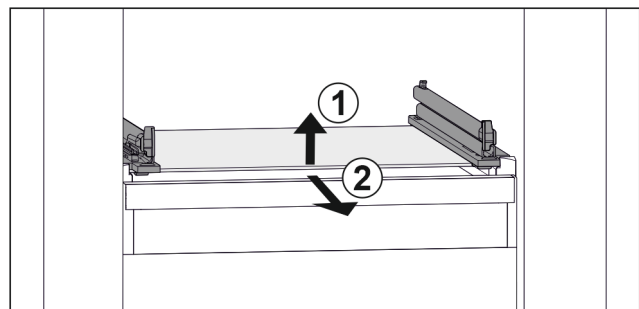

Fig. 90 Example illustration of glass shelf
- ▶ Lift glass shelf at the front. Fig. 90 (1)
- ▶ Remove glass shelf to the front. Fig. 90 (2)